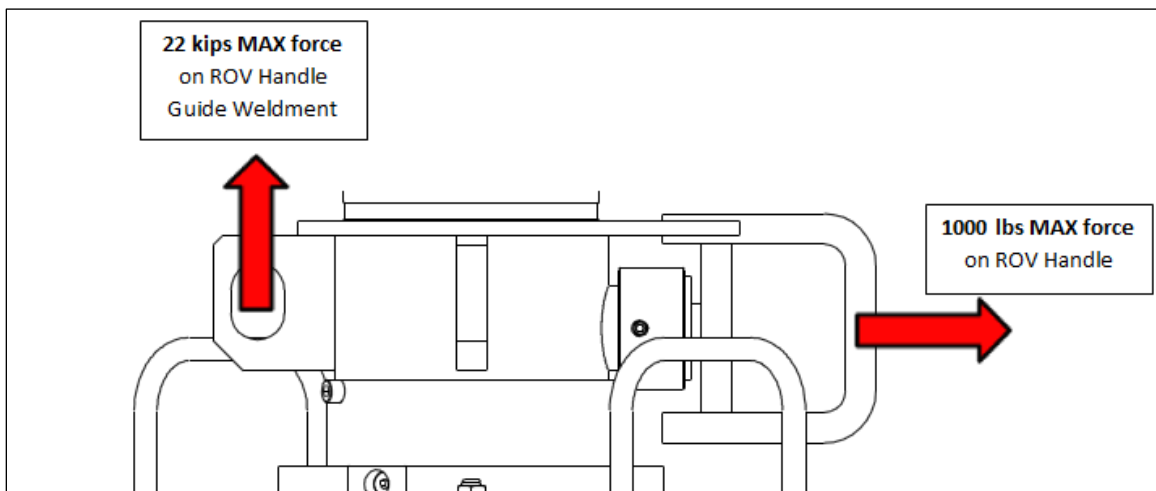
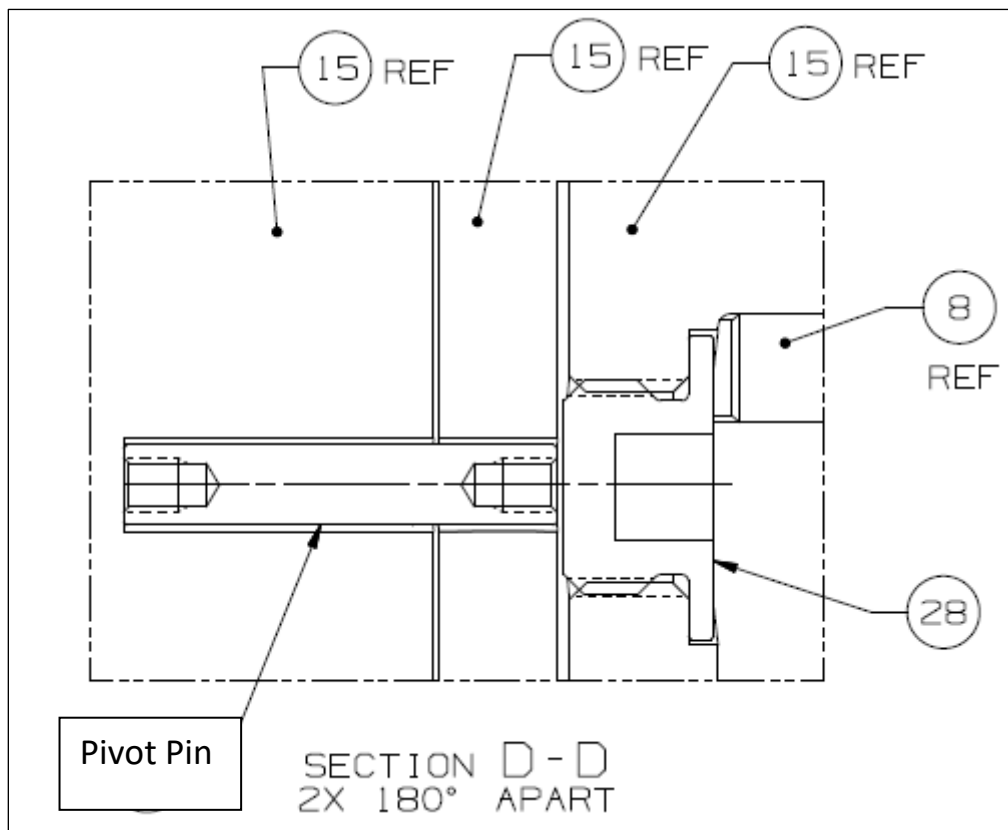

Figure 27: Maximum Force Limits on ROV Handle and ROV Handle Guide Weldment
Figure 29: Location of Pivot Pin
Before resorting to secondary release, have the ROV attempt to swing the ROV Handle in the CCW direction (after pulling the handle out at least ½") with as much force as the ROV operator is comfortable with. The MTRT can handle a maximum of 1000 lbs applied to the ROV Handle in the direction tangent to the axis of the ROV Handle, as shown in Figure 27.
2. The wireline or tugger line can then overpull with 10.0 kips to shear the two pivot pins, see Figure 29, located internal to the MTRT. (Maximum capacity of the ROV Handle Guide is 22 kips as seen in Figure 27).